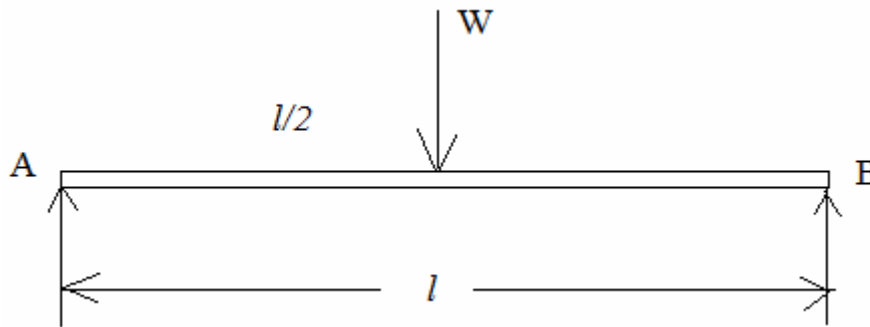

Fig.3
4. A timber beam of rectangular section is simply supported at the ends and carries a point load at the center of a beam. The maximum bending stress is 12N/mm^2 and maximum shearing stress is 1 N/mm^2 , find the ratio of the span to the depth.(Fig.3).